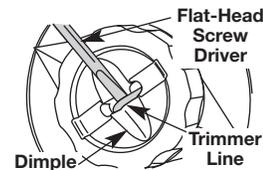

Fig. 32
2. Using a flat-head screwdriver, insert the tip into the line dimple and just under the exposed portion of the line (Fig. 32)